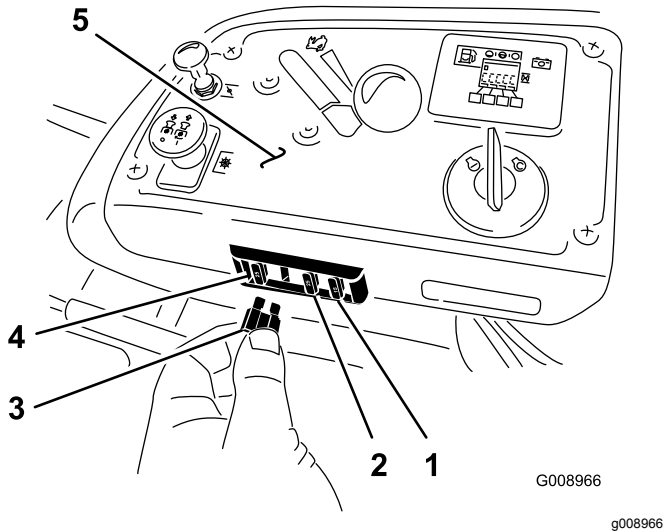

Figure 60
The fuses are located on the console to the right of the seat (Figure 60).
2. Install a new fuse (Figure 60).